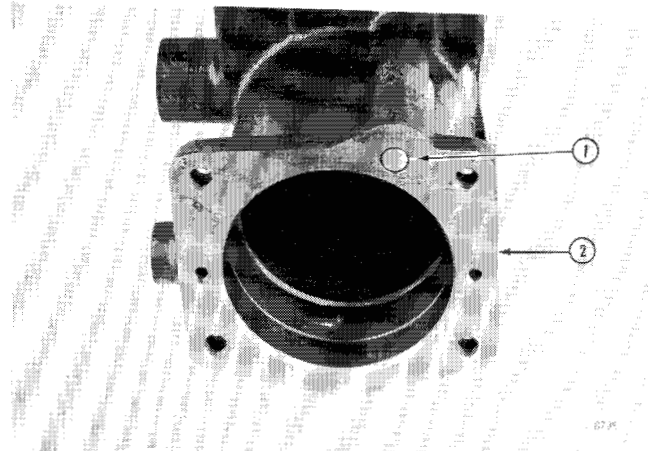

Figure 25
Remove retainer plug (1, Figure 25) and O-ring from power booster (2) if necessary.